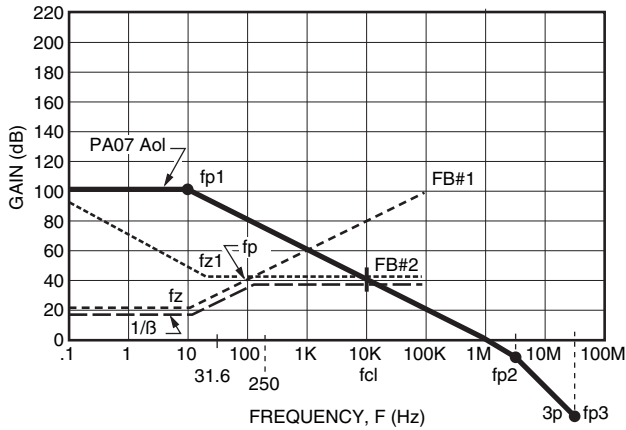

FIGURE 21. FINAL VALUE MAGNITUDE PLOT FOR STABILITY
STEP 5: We need to revisit FB#2 to make this V-I circuit stable. Figure 21 shows a new FB#2 and the resultant 1/β plot. Before we look at the open loop phase plot, let’s discuss Figure 21. We see that in the PA07 Aol plot, there is a pole at fp1, 10Hz, which will be a pole in our open loop phase plot. We also see a zero at fz, 10Hz, in the 1/β plot, which will become a pole in our open loop phase plot. Now we have two poles at 10Hz in our open loop phase plot. To keep the open loop phase from reaching -180, we must add a zero at 100Hz to get 45 degrees of phase margin. Poles and zeroes a decade beyond fcl, the intersection of 1/β and PA07 Aol, are of no concern for stability since at fcl the loop gain is zero. The reason we must look a decade beyond fcl on the magnitude plot is that poles and zeroes have an effect on phase plus or minus a decade away from their physical location on the magnitude plot.